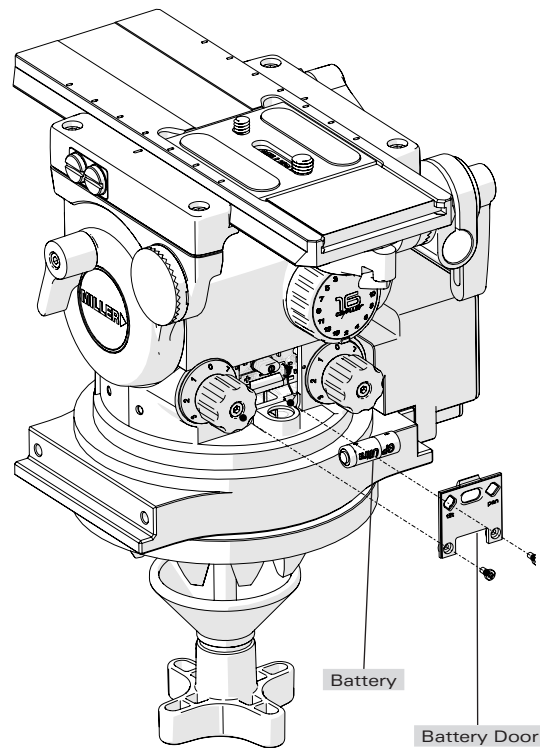

Fig. 12
- Insert the new battery as shown in (fig. 12).